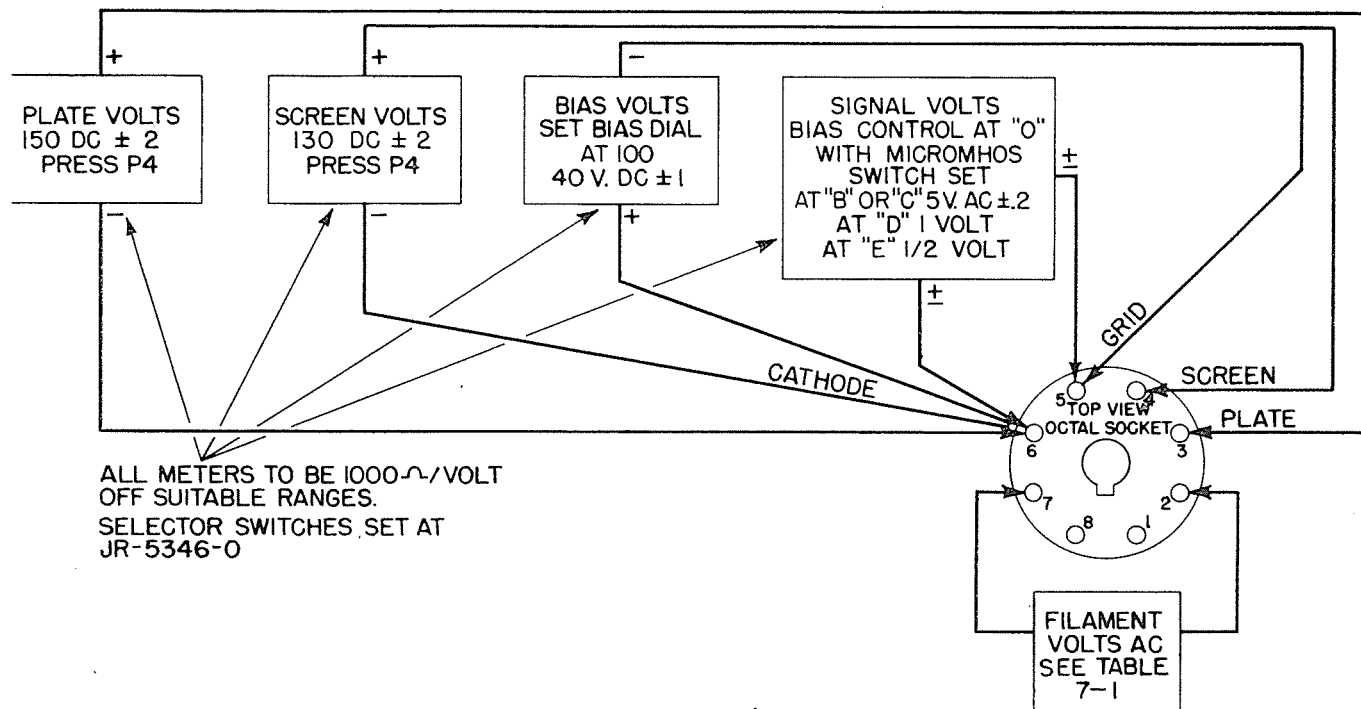

Figure 7-1. Voltage Calibration Check Diagram
Voltage tests must be made with an external multimeter, or individual meters of 1000 ohms per volt sensitivity having suitable ranges of ac and dc connected as illustrated by Figure 7-1. The Multimeter section of the TV-3A/U cannot be used for these tests. If the voltages are not in accordance with the following paragraphs, 7a(2) through 7a(6), refer to paragraph 8 and Table 7-2 of this section for probable causes.
(2) PLATE VOLTAGE CHECK (150 vdc).
(a) Connect the positive (+) terminal of the voltmeter to contact No. 3 of the octal test socket, X107, and the negative (—) terminal to contact No. 6 of the same socket. (See Figure 7-1)
(a) Connect the positive (+) terminal of the voltmeter to contact No. 4 of the octal test socket X107, and the negative (—) terminal to contact No. 6. Set BIAS control to zero. (See Figure 7-1)
(b) Connect the positive (+) terminal of the voltmeter to contact No. 6 of the octal test socket X107 and the negative (—) terminal to the No. 5 contact. (See Figure 7-1)
(b) Connect the terminals of the ac voltmeter to contacts 5 and 6 of the octal test socket X107. (See Figure 7-1)
(1) Turn on the equipment and set all controls in accordance with paragraph 7a(1) of this section.
(2) Connect a voltmeter between pins 5 and 6 of octal socket X107 as illustrated by Figure 7-1.
(3) Set BIAS control R116 at 100.
(4) Adjust slider "A" of R118 until the meter reads 40 volts dc.
(5) Connect a voltmeter between pins 4 and 6 of octal socket X107 as in Figure 7-1.
(6) Press buttons P3 and P2 and adjust slider "B" of R118 until the meter reads 56 volts dc.
(7) Tighten the slider screws and recheck the voltages.